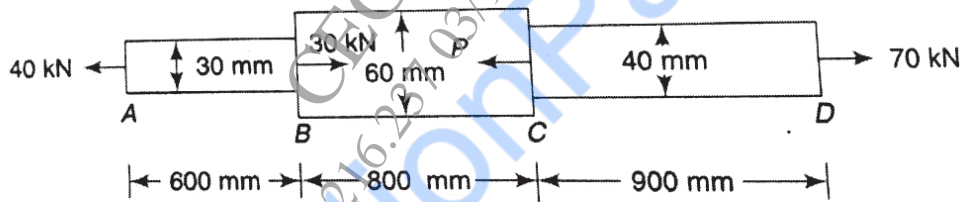

Fig.1 (a)
- Q1) a) A circular steel bar having three segments is subjected to various forces at different cross sections as shown in fig 1 (a). Determine the necessary force to be applied at section C for the equilibrium of the bar. Also find total elongation of the bar. Take $E = 200$ GPa. [8]